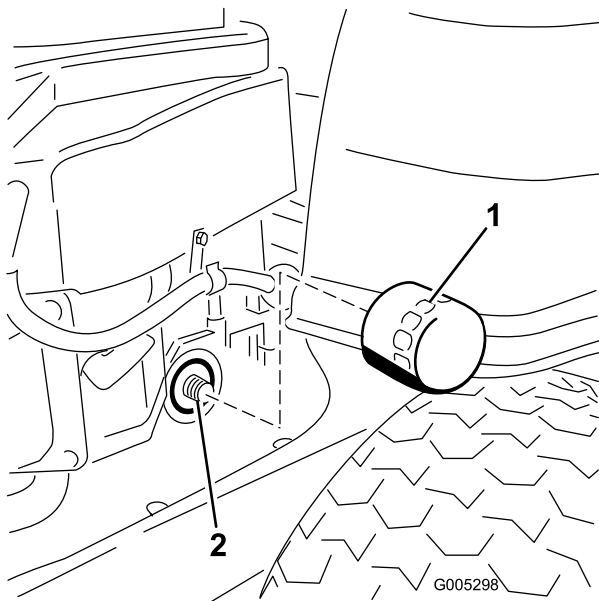

Figure 31
9. Locate the oil filter on the right side of the engine. Remove the old filter and wipe off the filter adapter with a clean cloth (Figure 31).
11. Install the replacement oil filter to the adapter. Turn the oil filter clockwise until the rubber gasket contacts the pad, then tighten the filter an additional 3/4 to 1 turn (Figure 31). Wipe up any excess oil on the frame.